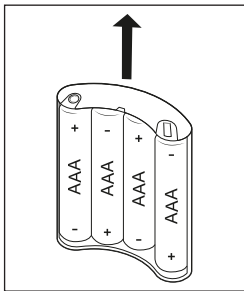

Fig. 3
6. Slide the battery holder 15 back into the battery compartment 14. Make sure that the battery holder 15 is inserted into the battery compartment 14 with the contacts entering first (see Fig. 3 and 4).